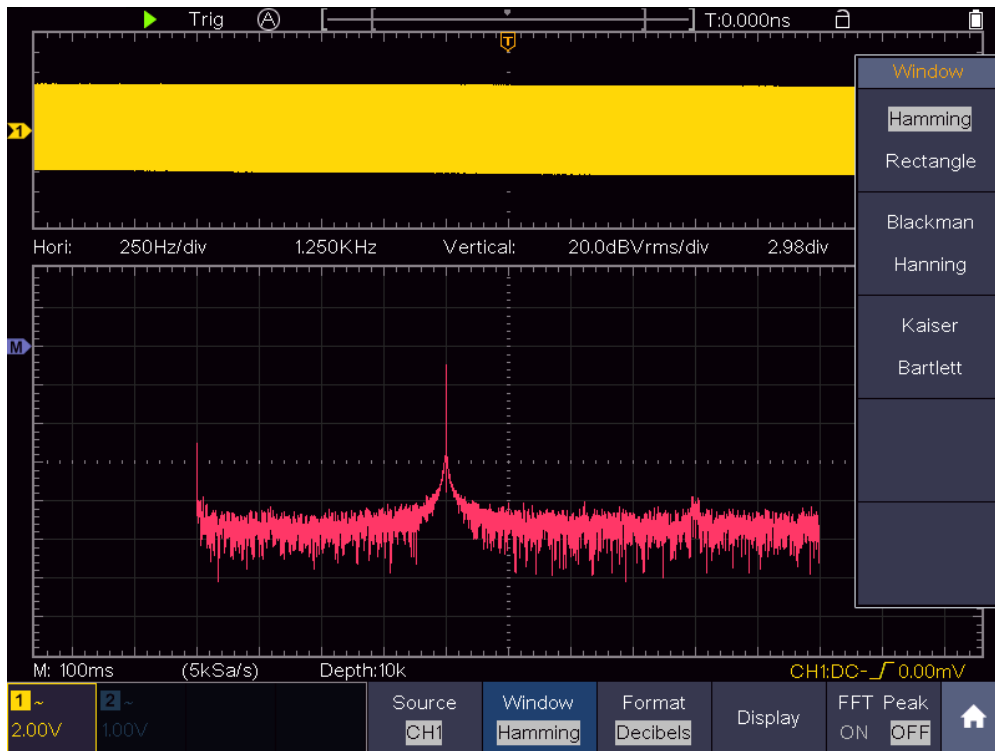
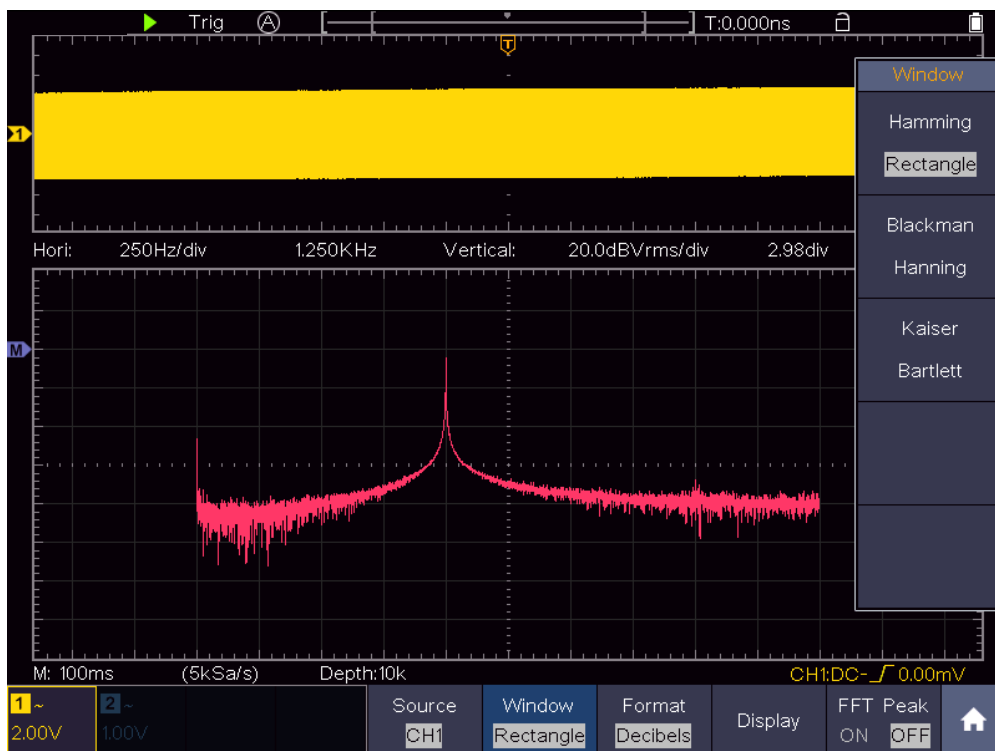
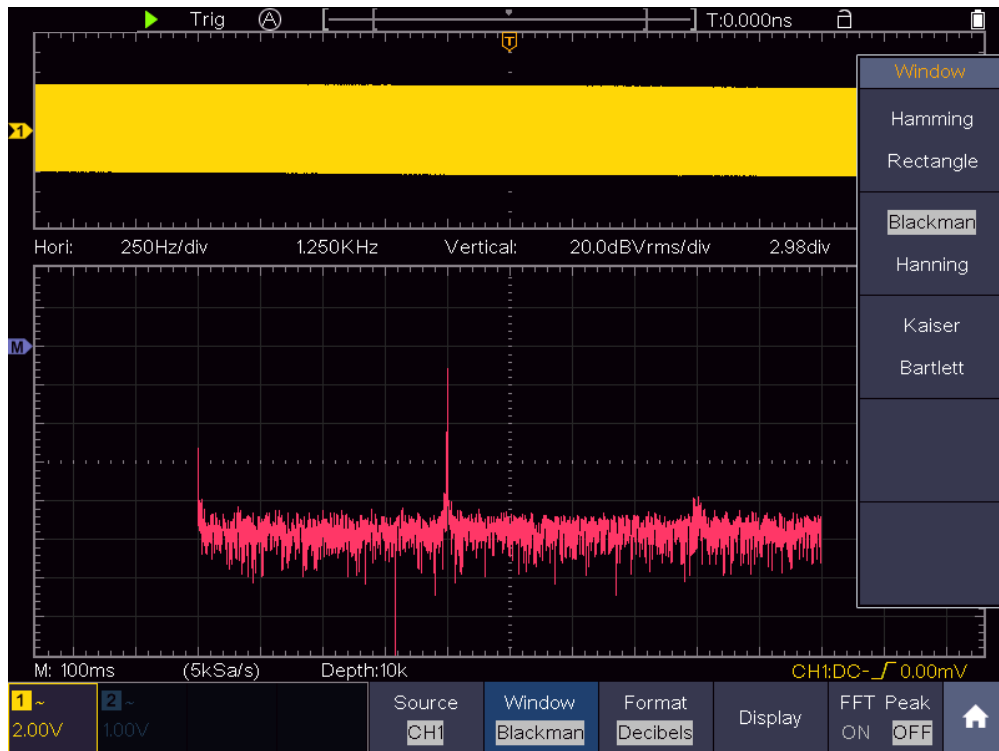
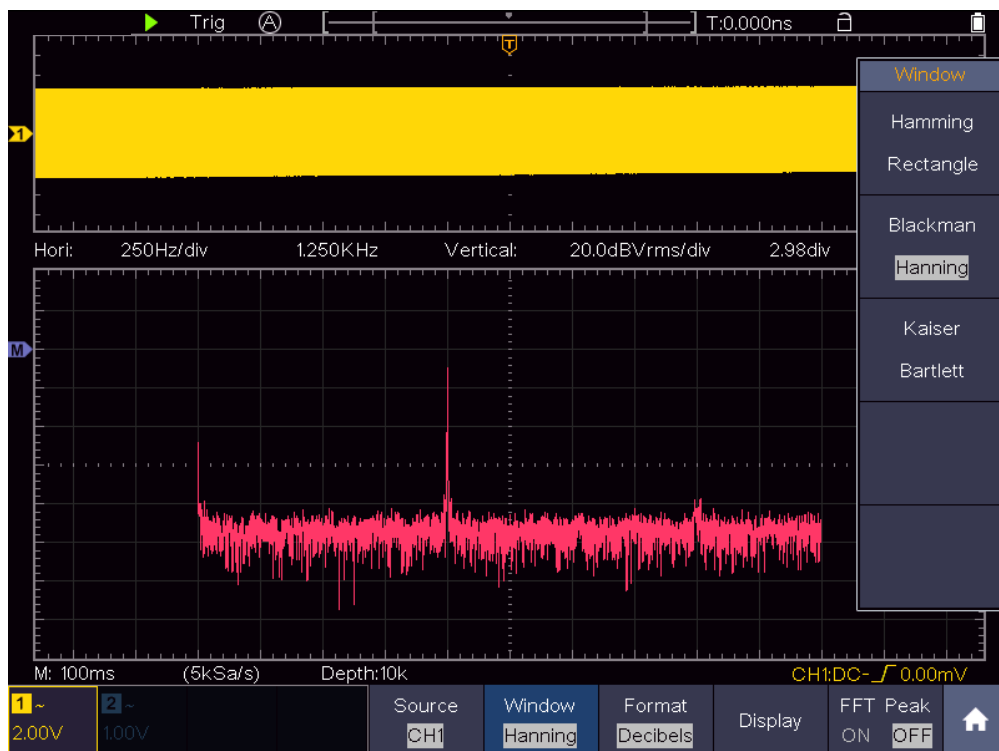

Figure 4-24 Hamming window
Figure 4-25 Rectangle window
Figure 4-26 Blackman window
Figure 4-27 Hanning window
*Figure 4-24, Figure 4-25, Figure 4-26, Figure 4-27, Figure 4-28, Figure 4-29* are examples for measuring sine wave with a frequency of 1kHz under the selection of six different windows for FFT: